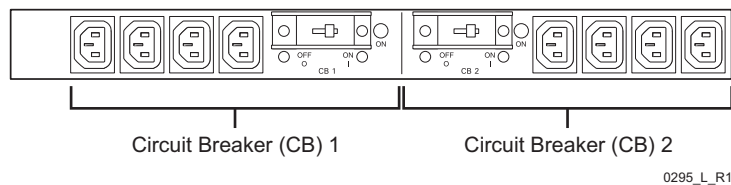

Figure 4-2. PDU Circuit Breakers
- 12 Remove AC to the storage server by turning off the PDU circuit breakers in the cabinet (Figure 4-2).